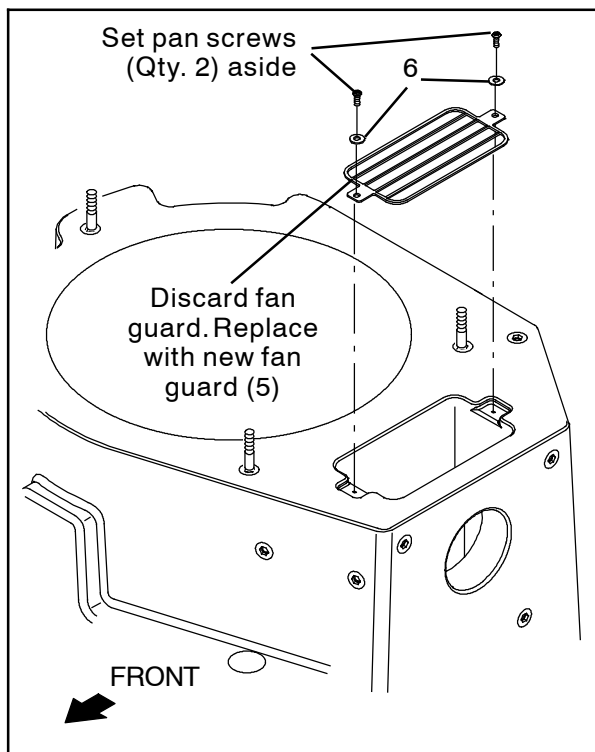

FIG. 5
- Remove the existing fan guard plate from the filter box. Set the pan screws aside. Discard the fan guard plate. (Fig. 5)
- Use one saved pan screw and one flat washer (6) to install the new fan guard plate (5) into the fan guard plate hole located at the front of the filter box. (Fig. 5)